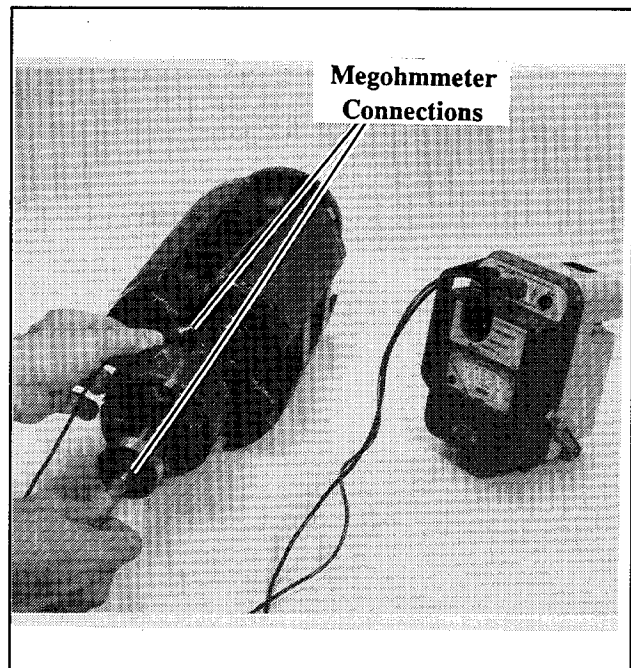

Figure 8-17. Megohmmeter Connections on Exciter Armature
3. Check exciter armature for a grounded condition. Using a megohmmeter, apply 500 Volts DC to either armature lead and armature frame. (Follow the instructions of the megohmmeter manufacturer when performing this test.) See Figure 8-17. A reading of approximately 500K ohms (1/2 megohm) and higher indicates the exciter armature is good. A reading of less than 500K ohms (approximately) indicates deterioration of winding insulation and possible current flow to ground. Repair or replacement of the exciter armature is necessary.